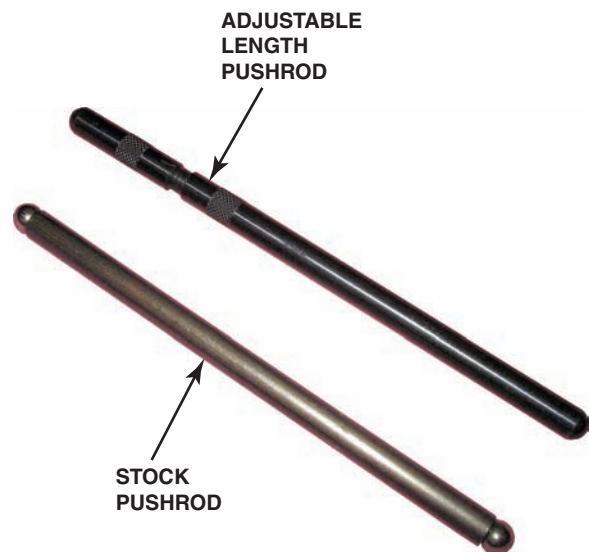

FIGURE 33-17 An adjustable pushrod is adjustable for length compared to a conventional stock pushrod.
- STEP 5** Use an adjustable pushrod and adjust the pushrod length a little at a time until testing results in the correct wear at the center of the valve tip. Measure the adjustable pushrod to determine the length needed. ● **SEE FIGURE 33-17.** Pushrods are often available in length 0.100 inch longer and shorter than stock.